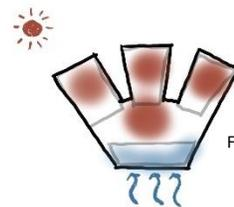

Fig. 17: Massing for solar heat gain (Source: Author)
- Increasing the surface area facing the sun's path, for solar heat gain while reducing exposure on the shaded sides and placing buffer rooms can effectively heat the building (fig.17).